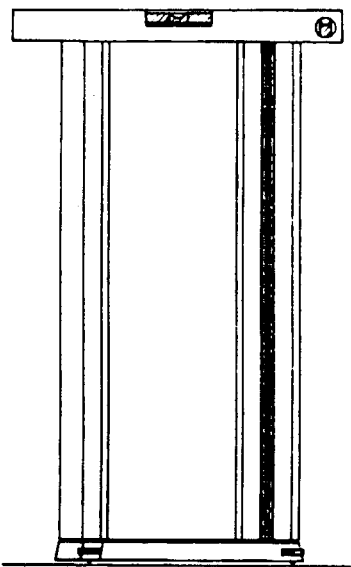

Fig. 6
3. The first module must be perfectly level in the horizontal plane, so that the speakers will stand completely perpendicular without leaning. Use a spirit level placed at various positions on top of the first module (See Fig. 6).